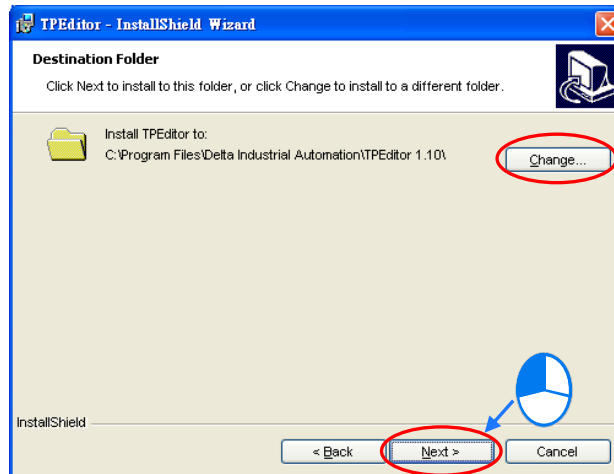

Figure 1-4 Process of installing TPEDITOR
- (6) Leave the default path unchanged, or click **Change...** to change the path. Click **Next** to proceed to the next step, as shown in Figure 1-4.